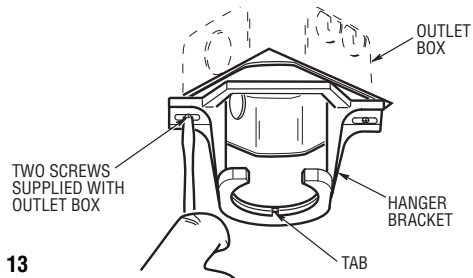
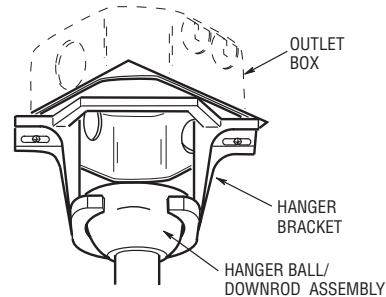

Figure 13
Figure 14
1. Securely attach the hanger bracket to the outlet box using the two screws supplied with the outlet box. (Figure 13.)
2. Carefully lift the fan and seat the hanger ball/downrod assembly on the hanger bracket that was just attached to the outlet box (Figure 14). Be sure the groove in the ball is lined up with tab on the hanger bracket (Figure 13).